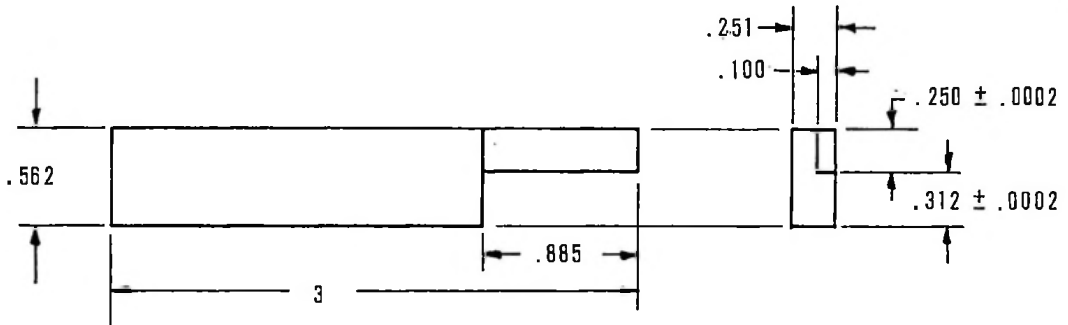

FIG. 5-9
- b) Adjust screw A for 9/16" height of the top of the upper track above the deck surface. Gates gauge (Fig.5-9) can be used to make this setting. It can also be used to check the guide post height of cartridges.